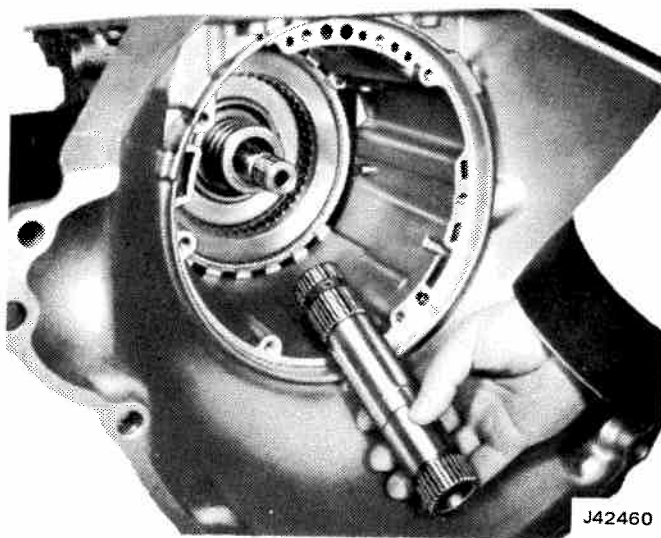

Fig. 7-30. Removing Sun Gear Shaft
(2) Remove sun gear shaft as shown in fig. 7-30.